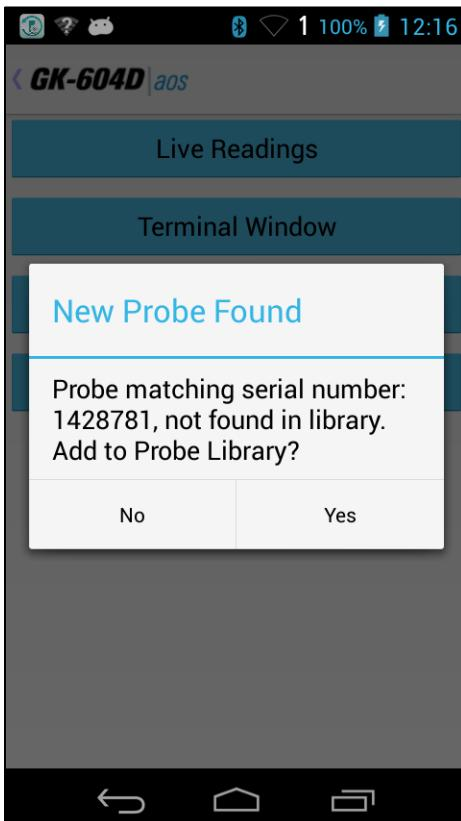
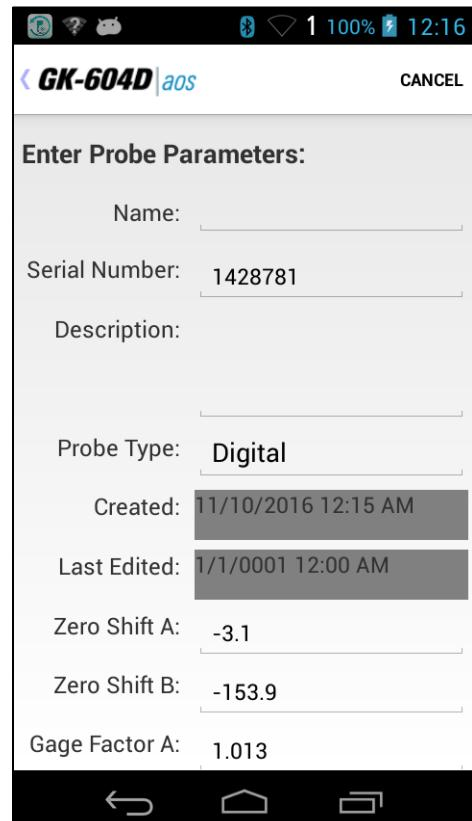

Figure 14 - New Probe Found
Figure 15 - Initial Probe Settings
- If the window shown in Figure 14 is displayed, then the probe has not been previously detected by the GK-604D|aos. In this case, tapping “Yes” will cause the probe to be added to the Probe Library and the Probe Settings screen shown in Figure 15 to be displayed. This allows an opportunity to give the newly detected probe a user-friendly name and description. (See Section 4.2, Probe Configuration for more information on probe settings.)